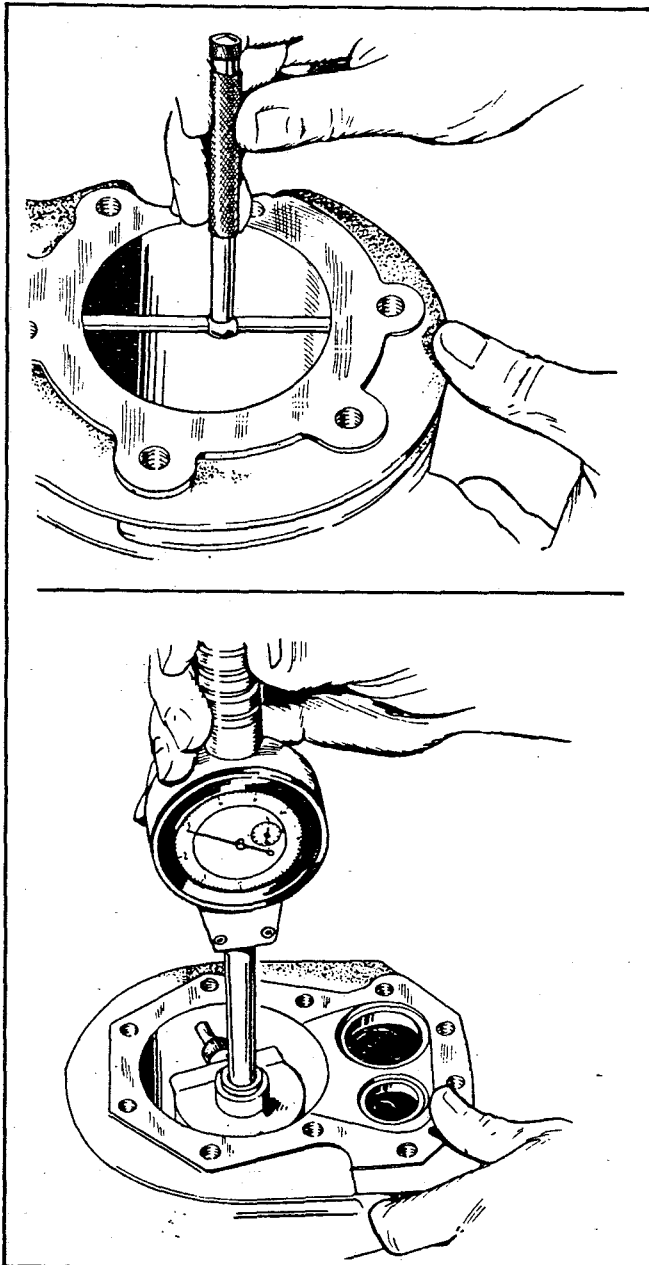

FIGURE 48. METHODS OF CYLINDER BORE INSPECTION
3. Check the cylinder bore for taper, out of round and wear with a cylinder bore gauge, telescope gauge or inside micrometer (Figure 48). These measurements should be taken at four places – the top and bottom of piston ring travel.